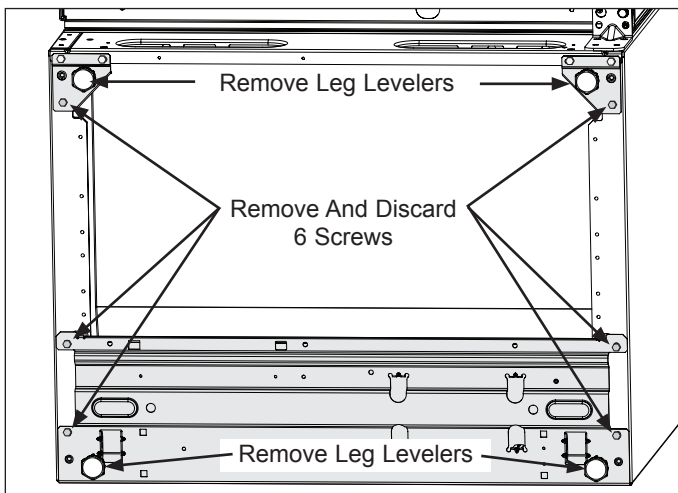

Figure 2
b. Remove 3 screws from each side and discard. (See Figure 2.)